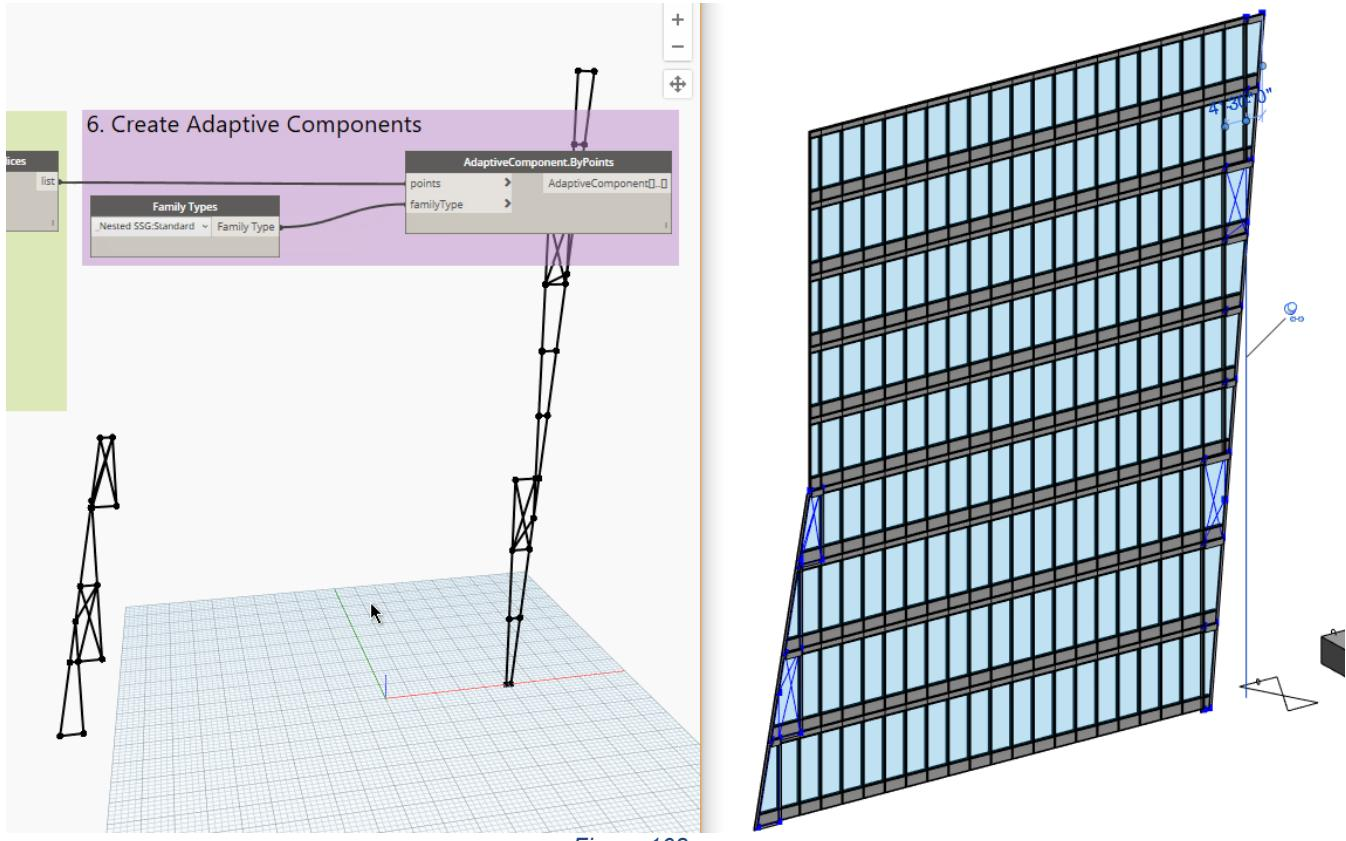

Figure 108
60. Turn on Use Levels for the **element** input as well. Change it to: @L1 and then run the graph again (see Figure 108).
69. Run the graph (see Figure 108).